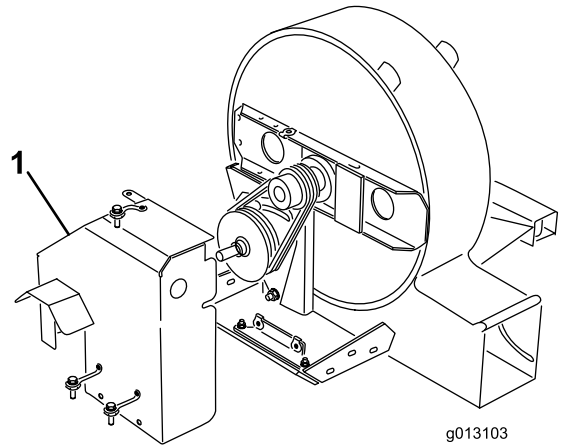

Figure 14
1. Loosen the 3 bolts and 3 nuts securing the belt guard to the blower housing (Figure 14), remove the guard.